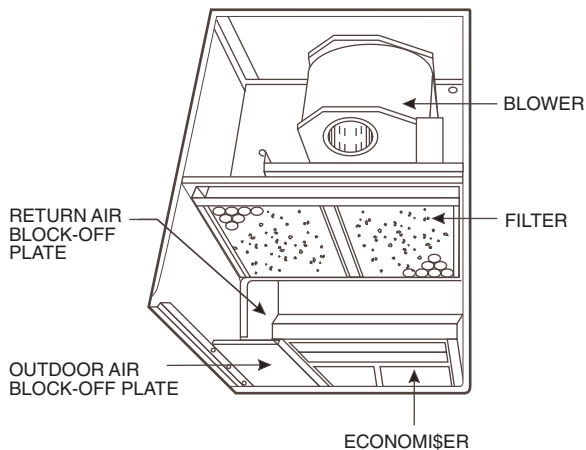

Fig. 27 — Return Air Block-Off Plate Installation
- Install the return air block-off plate over the return air duct opening. See Fig. 27.
- Install the outdoor air block-off plate, then secure the EconoMiSer with the screws provided. See Fig. 27 and 29.